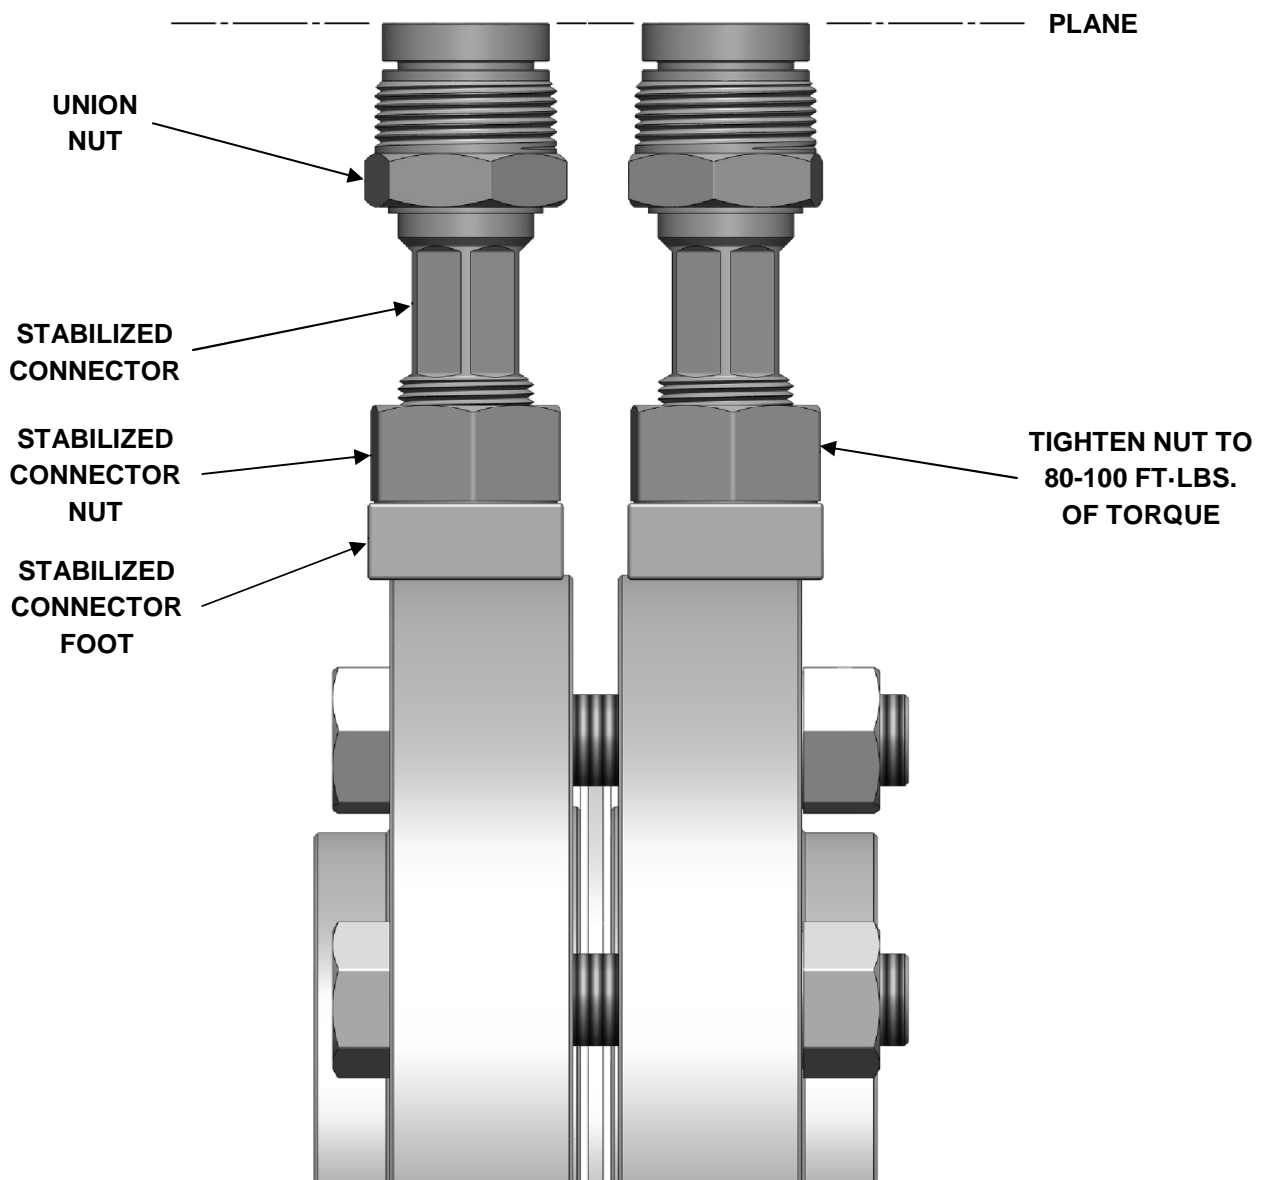
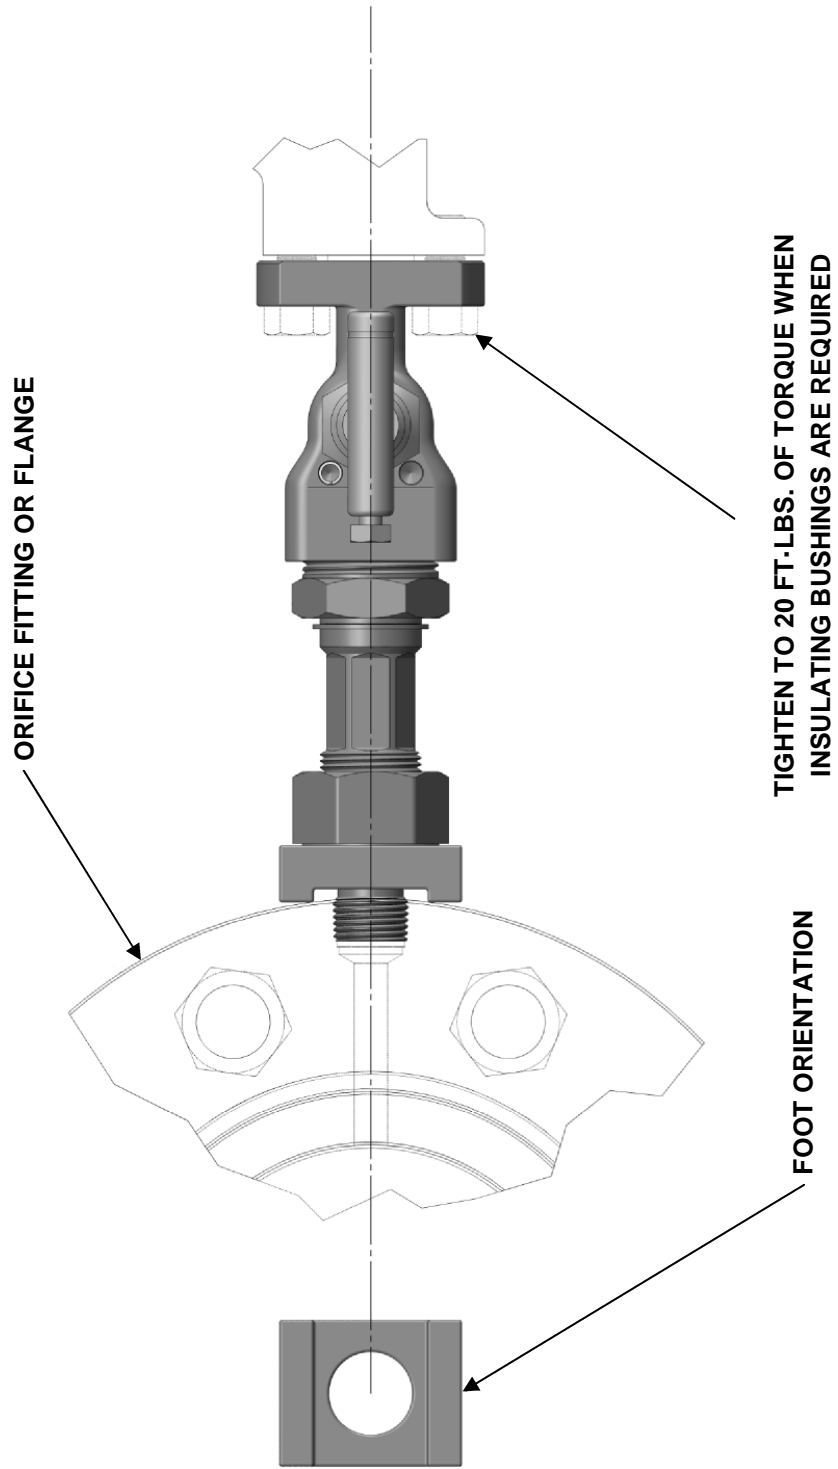

Figure 1
Figure 4
- 2.1.4 Tighten the connectors so that the top surfaces are on the same plane as seen in Figure 1. Do not back out connectors to align surfaces.
- 2.1.6 Tighten stabilizing nut to 80-100 ft.-lbs. of torque per Figure 1 while keeping the foot in the correct position per Figure 4.